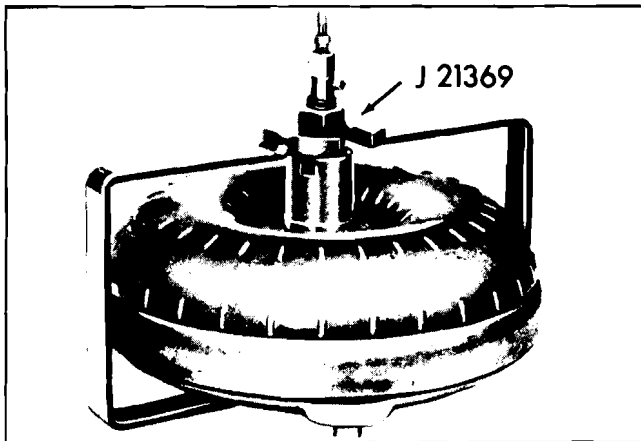

Fig. 7G-104 Air Checking Converter
b. Fill converter assembly with 80 psi. of air, submerge in water and check for leaks (Fig. 7G-104).